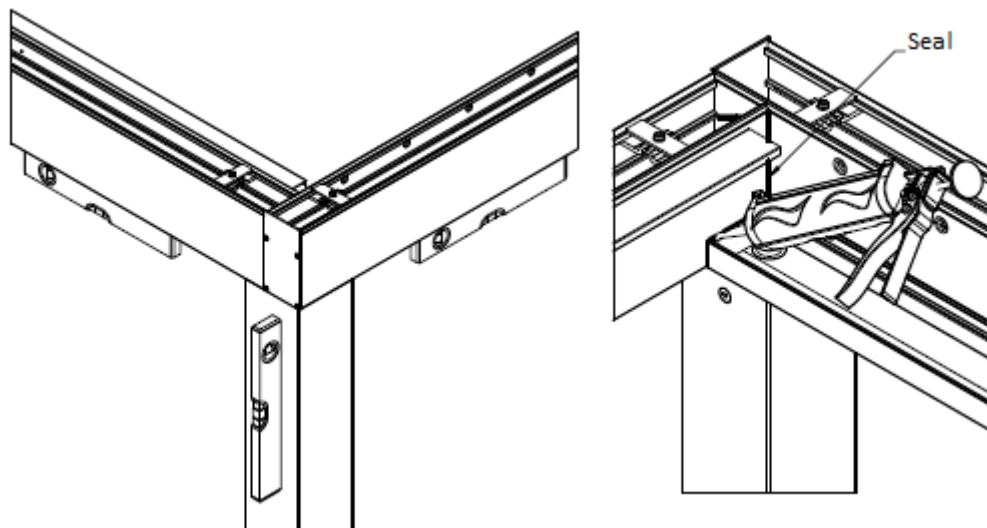

Fig. 12
11. Once the structure is correctly positioned, anchor all the columns. After anchoring, seal the space between the transverse beam, the longitudinal beam and the gutter - Figure 12.